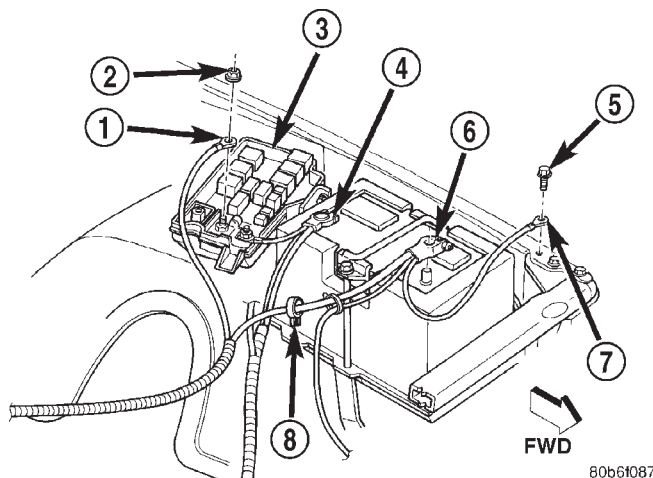

Fig. 16 Battery Cables - Typical
(1) Clean and inspect the battery (Refer to 8 - ELECTRICAL/BATTERY SYSTEM - CLEANING).
(2) Position the battery onto the battery tray. Ensure that the battery positive and negative terminal posts are correctly positioned. The battery cable terminal clamps must reach the correct battery terminal post without stretching the cables (Fig. 16).